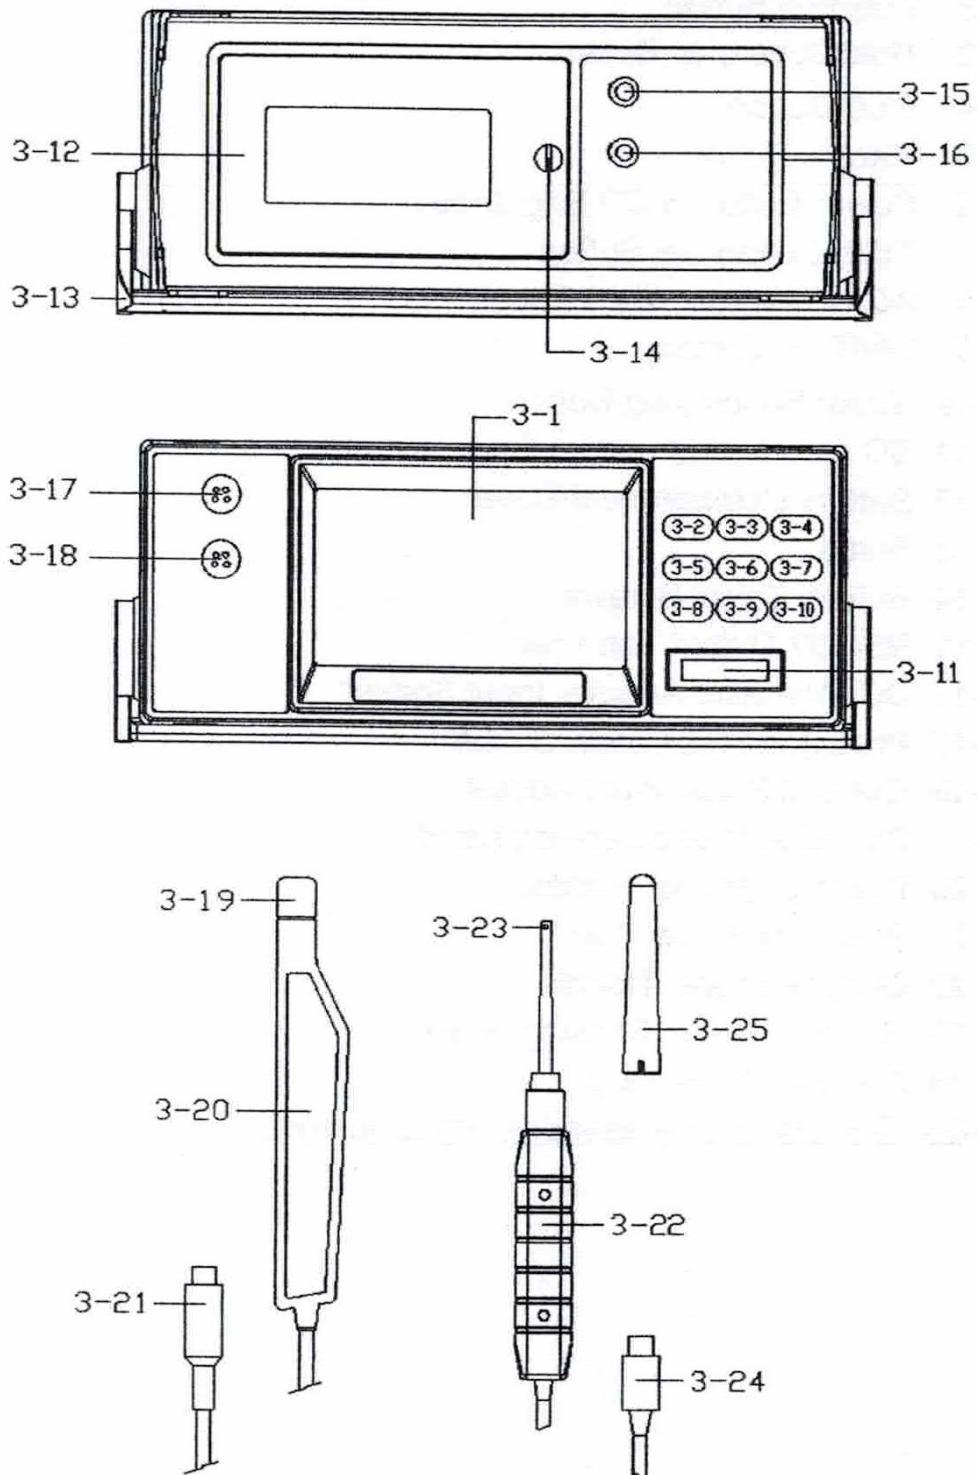

Fig.1
- 1) Power ON the meter by pressing and holding the " Power Button " (3-6, Fig. 1)for at least 2 seconds .
by pressing the " Function Button " (3-2, Fig. 1) to select General measure function .
- 3) General Probe Plug (3-24, Fig. 1) into the meter General Probe Input Socket (3-18, Fig. 1)
by pressing the " AC/CD Button " (3-8, Fig. 1) to select measure function DC or AC function .
by pressing the " Range Button " (3-5, Fig. 1) to select ' Range 1 or 'Range 2 .
- 6) unit selection by press the " Unit Button " (3-9, Fig. 1) to select the unit mT or G .
2. For precision DC ,AC magnetic field measurement it should deduct those "not zero " value (existing environment earth's magnetic field value) at first . Before the measurement, fix the probe at the exact position, by pressing and holding the" ZERO (3-8 , Fig. 1) " continuously at least two seconds until the Display show " ZERO " indicator then release the finger from the button.
*press the " ZERO Button " (3-8, Fig 1) continuously at least 2 seconds the " ZERO " indicator will be disappeared and the Display will return to the value)." no zero "value (show the environment magnetic field.
by pressing the " Function Button " (3-2, Fig. 1) to select Precision measure function .
- 3) Precision Probe Plug (3-21, Fig. 1) into the meter
Precision Probe Input Socket (3-17, Fig. 1)
by pressing the " AC/CD Button " (3-8, Fig. 1) to select
by pressing the " Range Button " (3-5, Fig. 1) to select
- 6) unit selection by press the " Unit Button " (3-9, Fig. 1)
2. Power ON the meter by pressing the " Power Button "(3-6 Fig 1) >2 S.
3. Select the unit (mG or uT) by press the " UNIT Button "(3-9 Fig 1) once.
2. For Precision DC, AC magnetic field measurement it should deduct those "not zero " value (existing environment earth's magnetic field value) at first .Before the measurement, fix the probe at the exact position, by pressing and holding the"ZERO (3-8 , Fig. 1) " continuously at least two seconds until the Display show " ZERO " indicator then release the finger from the button.
*press the " ZERO Button " (3-8,Fig 1) continuously at least 2 seconds the " ZERO " indicator will be disappeared and the Display will return to the value)." no zero "value (show the environment magnetic field.
During the measurement, press the " Hold Button " (3-3, Fig. 1) once will hold the measured value & the LCD will display a " HOLD " symbol.